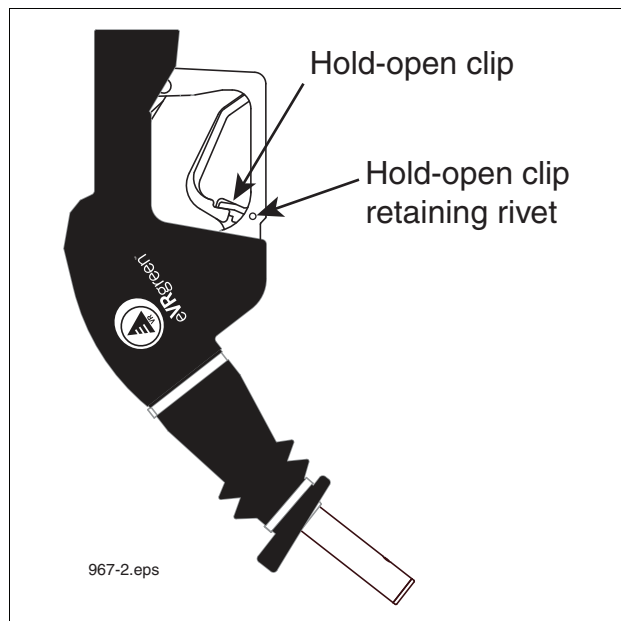

Figure 2. Removing Hold-Open Clip
7. **If local regulatory codes prohibit use of the EVR Balance nozzle's hold-open clip it must be removed prior to nozzle installation. Remove the nozzle to a safe area. Place the nozzle on a flat surface. Locate the alloy rivet securing the hold-open clip and spring in the nozzle's handle (see Figure 2). Using a drill with a 3/16" (5mm) bit, drill out the rivet. Discard the clip, spring and any rivet shards.**
- Inspect the operation and condition of the nozzle’s hold-open clip and spring (see Figure 2 on page 5). Replace the nozzle if necessary.